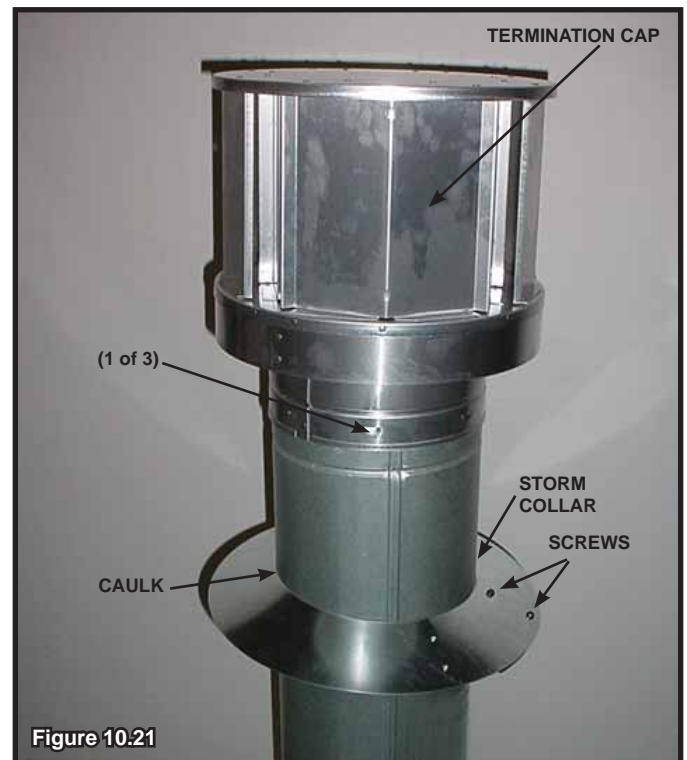

Figure 10.21
- Slide the assembled storm collar down the pipe section until it rests on the roof flashing. See Figure 10.21.
- Caulk around the top of the storm collar. See Figure 10.21
- Secure the cap by driving three self-tapping screws (supplied) through the pilot holes in the outer collar of the cap into the outer flue of the pipe (see Figure 10.21).